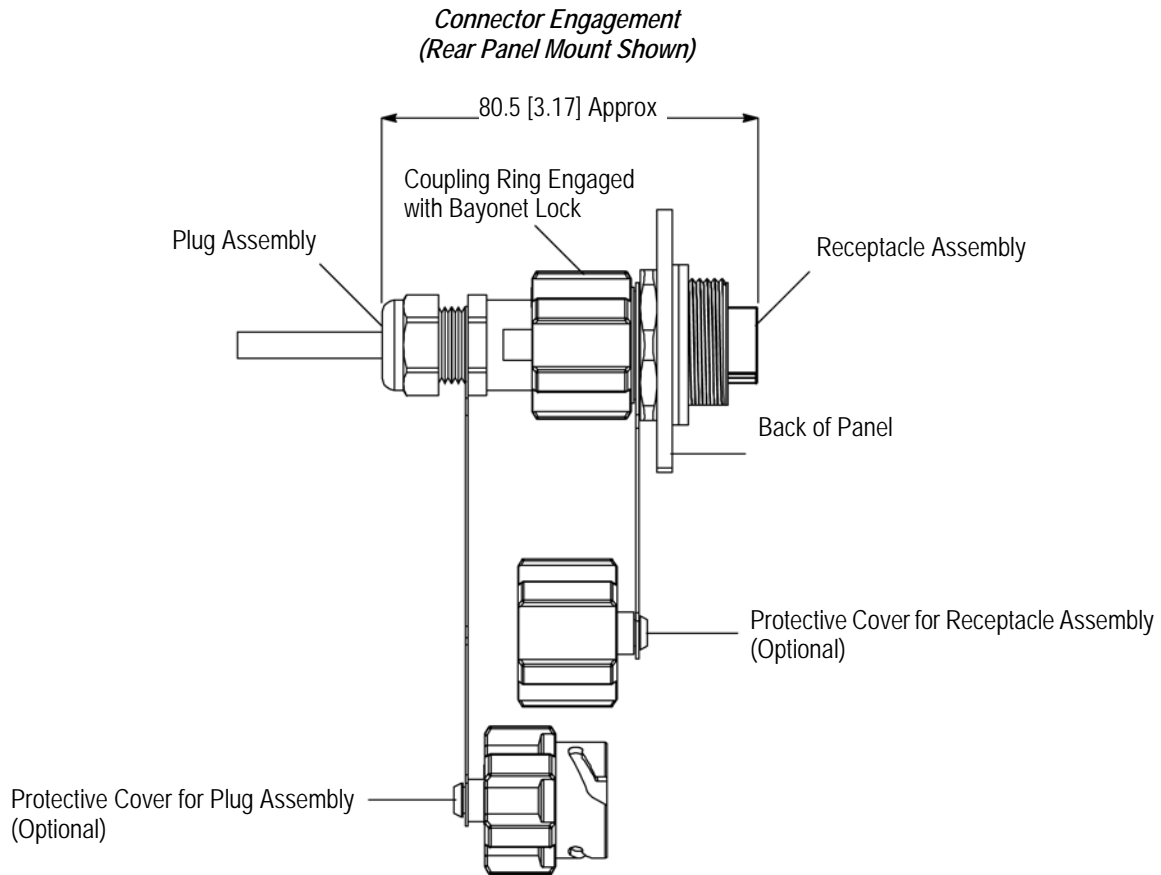

Figure 13
Properly engaged connectors must have the following requirements (see Figure 13):
- the length of the engaged connectors must be within the dimension given in Figure 13